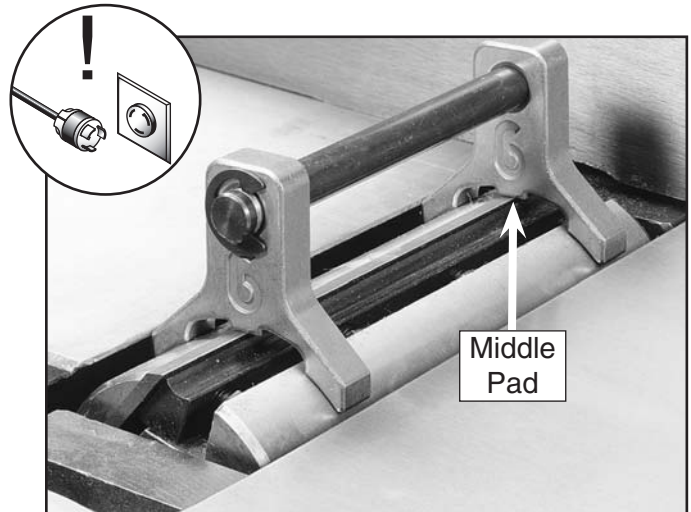

Figure 41. Jig positioned over cutterhead knife.
4. Place the knife jig on the cutterhead, directly over a knife, as shown in **Figure 41**.
6. Position the knife gauge over the knife as shown in **Figure 41** and loosen the gib bolts until the knife is completely loose.